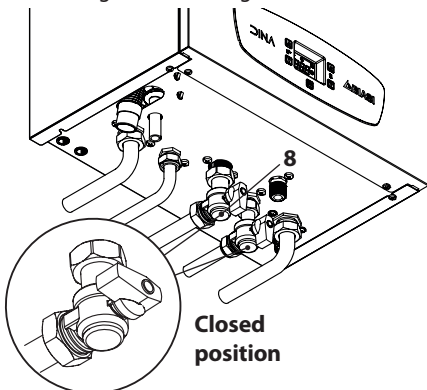

Figure 6.2
- Close the gas cock 8 in Figure 6.2.